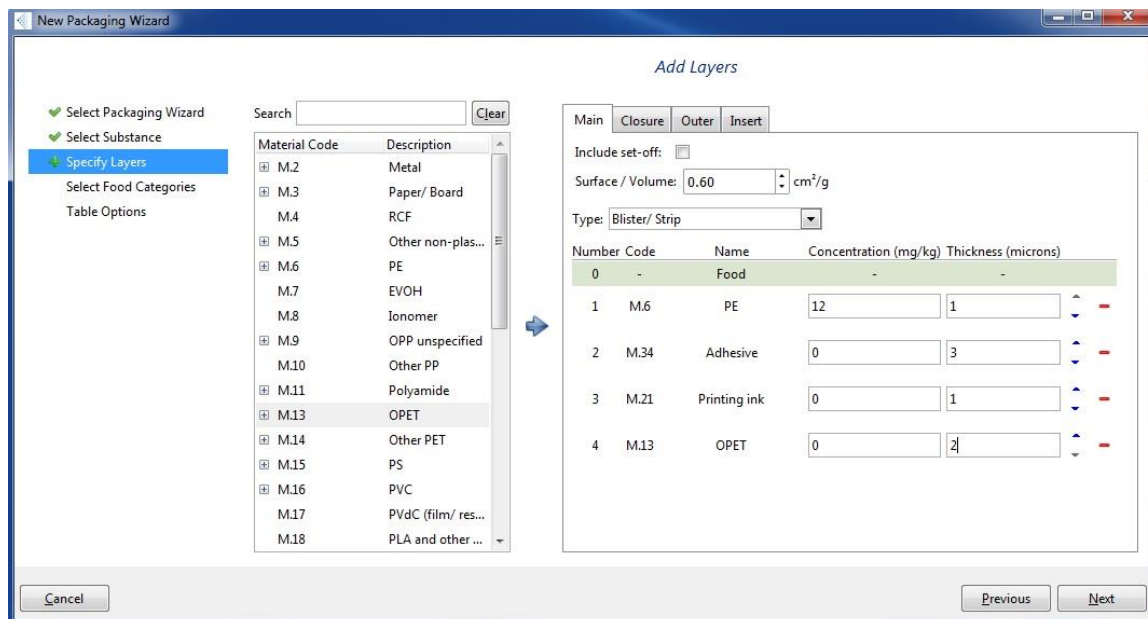

Figure 76: Add a material and specify concentration of additive and thickness of each layer
5. Add a material to the structure by selecting it from the list on the left and clicking on the blue arrow to add it to the structure (Figure 76).
- The order of the layers can be re-arranged by using the black up and down arrows next to each material (Figure 76).
- Materials can also be removed by clicking on the red minus symbol next to each layer (Figure 76).